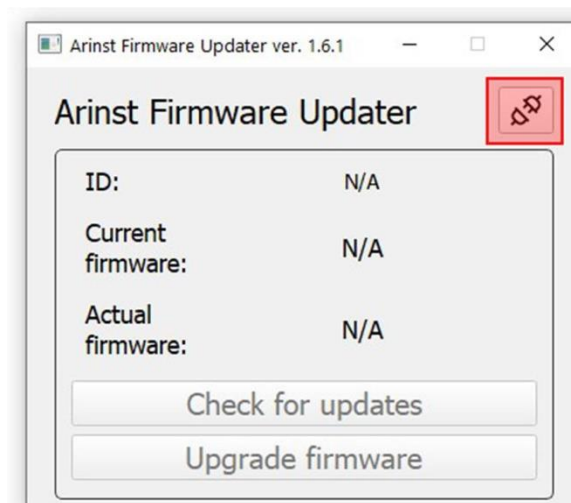

Figure A2.1 – Connecting the device to a PC
2.3. Click the button8 to connect the device to your PC (Figure A2.1).